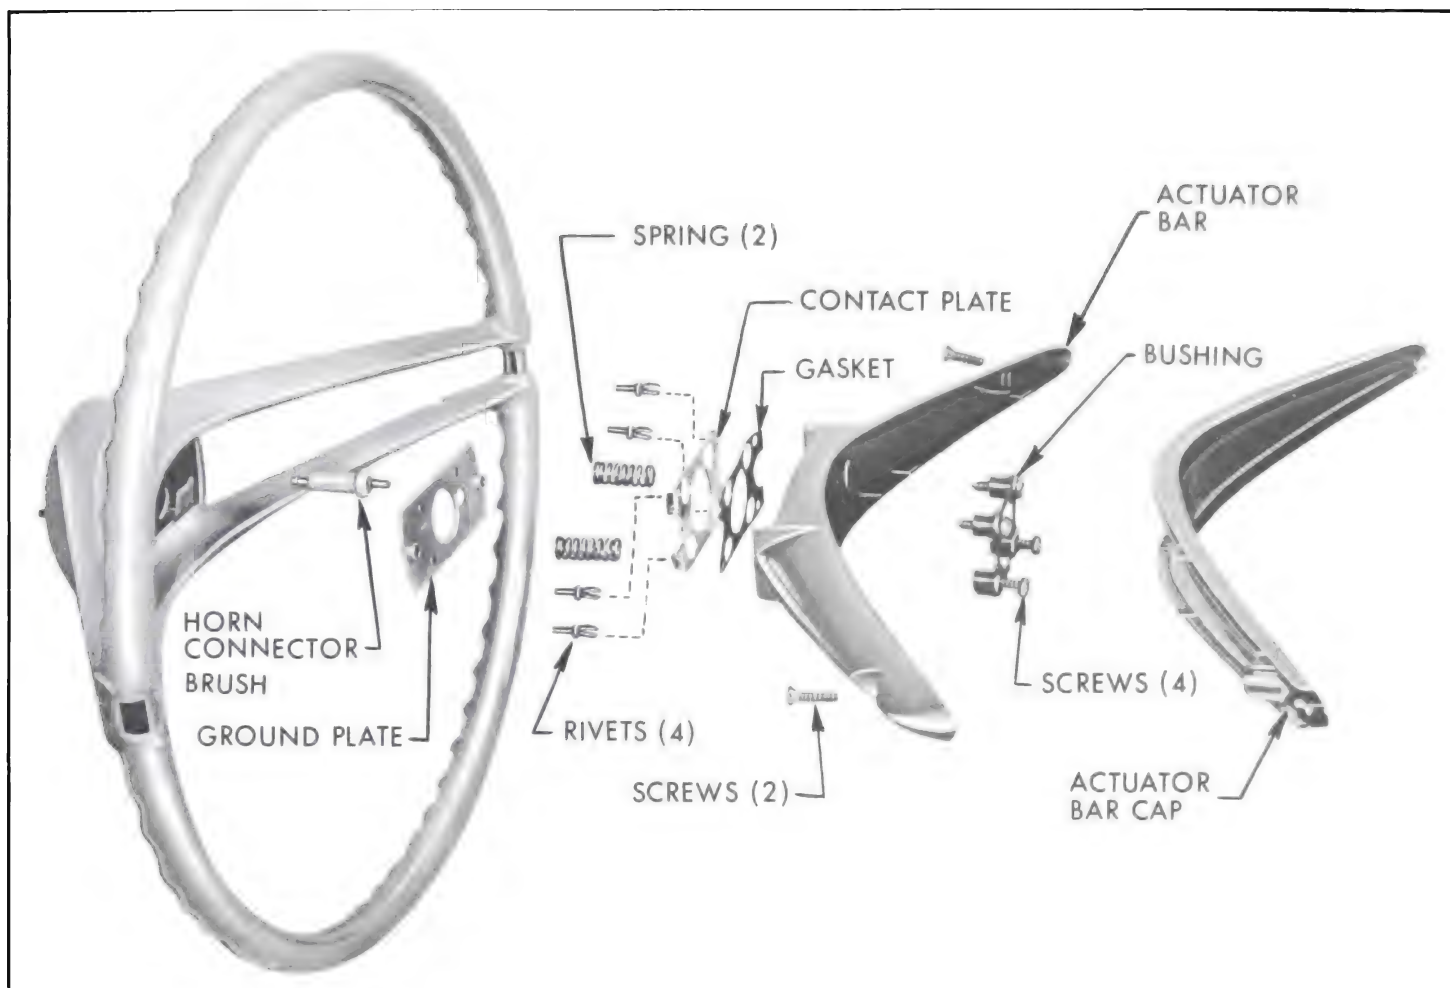

Figure 10-55—Horn Contacts
The steering wheel has an actuator bar mounted across the steering wheel. Fastened to the base of the actuator bar, but insulated from it, is a contact plate which is "hot" at all times. See Figure 10-55. When the actuator bar is rocked, the contact plate contacts a ground plate on the steel hub of the steering wheel to ground the horn relay winding, close the relay contacts, and blow the horn. When the actuator bar is released, two springs move the actuator bar and contact plate assembly clear of the ground plate.
1. Break circuit at connector for horn wire that enters steering mast jacket (tan wire) and ground wire from horn relay. If horn now blows, horn relay ground circuit in mast jacket or steering wheel has an open. Reconnect wire on connector and check horn wire and horn contacts. Circuit from connector at mast jacket to contact on steering wheel must be complete. To remove horn contact, remove two retaining screws from actuator bar cap. Remove four clutch-head retaining screws from actuator bar. Remove four plastic retaining rivets from actuator plate. See Figure 10-55.